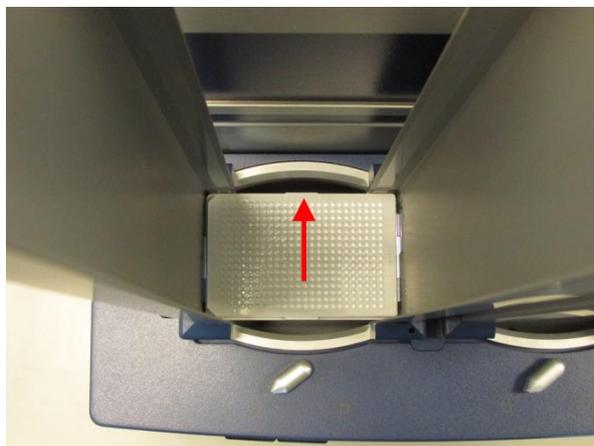

Figure 13
4. Click the 'Get plate' button of Stack 1 and watch the plate moving down (from the same angle of view, as shown in Figure 13).